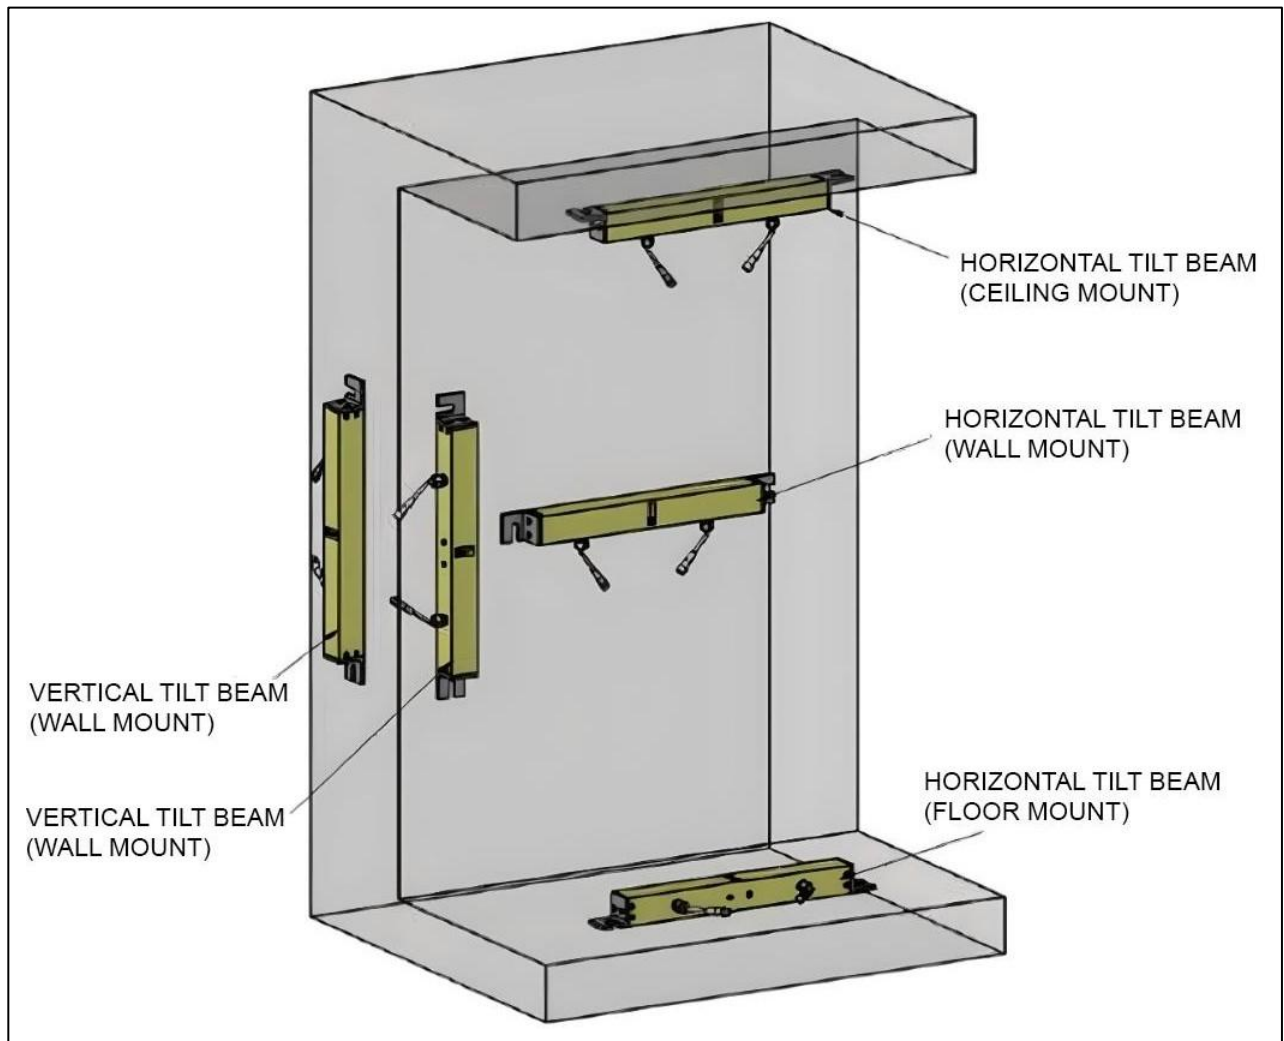

Figure 4: MEMS Tilt Beam Mounting Orientation Options
1. Determine the installation location and orientation. Refer to Figure 4 for mounting orientation options.
1. Determine the installation location and orientation for all tilt beams. Refer to Figure 4 for mounting orientation options. Fix the anchors as required.